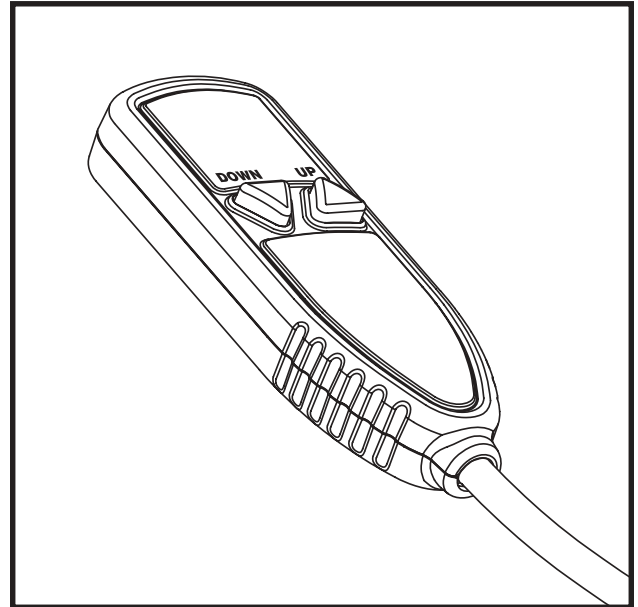

Figure 7. Hand Control
1. Press and hold the “DOWN” button. See figure 7. The lift will move out of the vehicle to its farthest forward stop, then lower to the ground. Once the platform has reached the ground, release the “DOWN” button.
6. Press and hold the "UP" button. See figure 7. The lift will move up to its highest lift point, then slide into the vehicle. Once the mobility device is stowed completely within the vehicle, release the button.